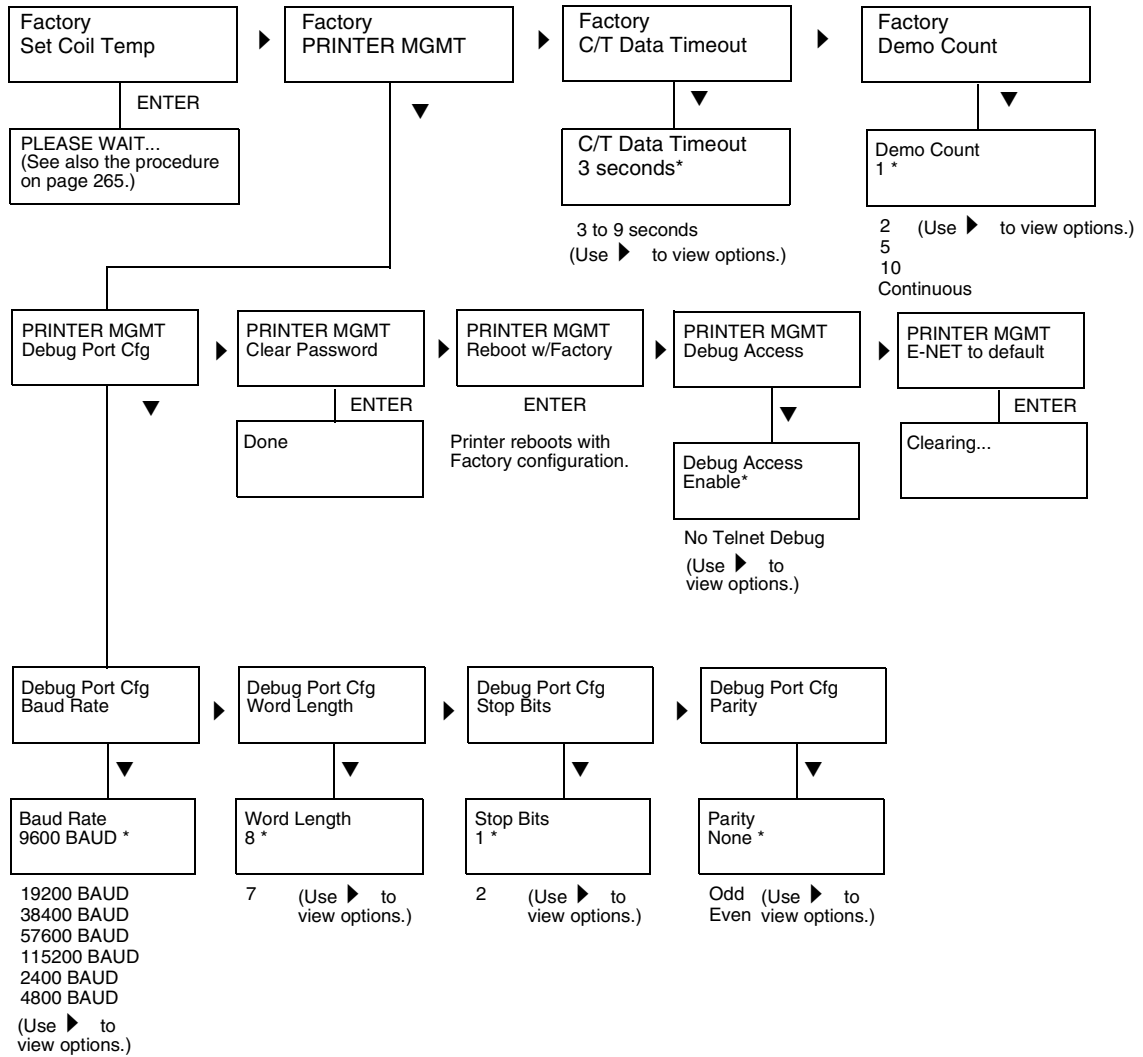

Figure 9. Factory Menu
The factory menu is a multi-level menu that operates the same way as the user menus. The menu structure is shown in Figure 9 on page 231.
5. Press ▲ + ▼ + ► + ◄ to enter the factory menu. (Press all four keys at the same time.) "Factory / Set Coil Temp" appears on the display. Menu options are shown in Figure 9.